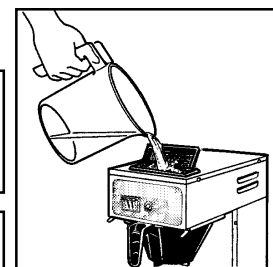

Figure 3. Pour cold water into pour hole.
3. Take another decanter and pour water into the hole on the top cover (fig. 3.). Brewing will take about three minutes.
NOTE: You should have at least two decanters for brewing coffee. One for pouring water, the other to brew coffee into. Airpot brewers will require a pitcher that holds 74 ounces (see figure 3).